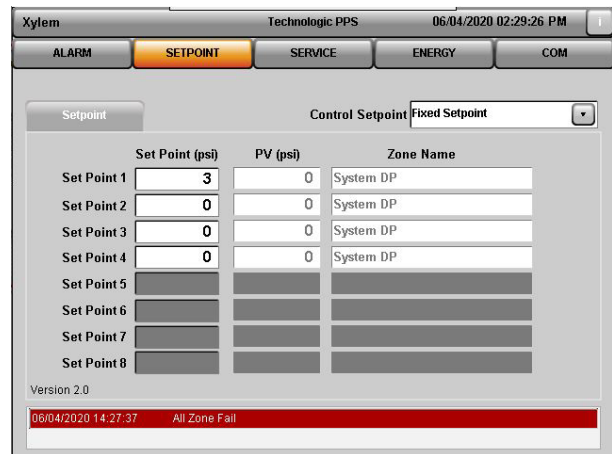

Fig 5.6.2 Fixed Setpoint-sensor control
- Fixed Setpoint Screen for Sensor Configuration as shown in **Figure 5.6.2**.